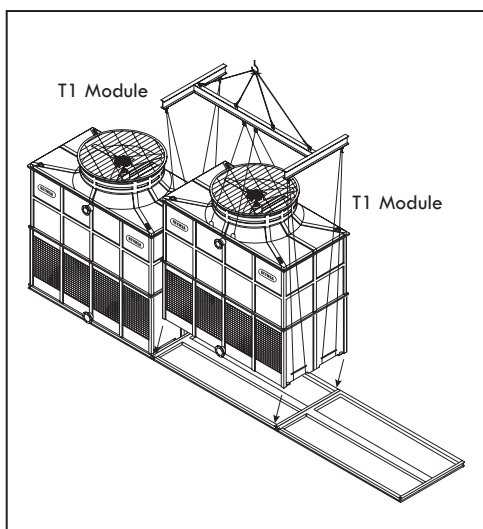

Figure A-90: Second T1 Module lifting and installation for a modular tower (RTGM-B-S)
- B. Follow the same procedure to install the next module. This module should have only two air inlets (on the large sides). See Figure A-90 for reference.